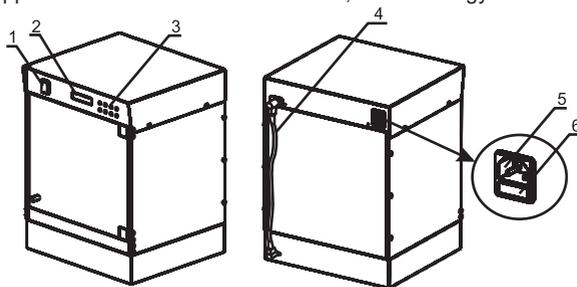

Fig.1
- power switch (fig. 1/1);
- display (fig. 1/2);
- control buttons (fig. 1/3).
- shaking block control cable (fig. 1/4);
- socket for connecting the power cord (fig. 1/5);
- fuse holder (fig. 1/6).
- connect the shaker control cable (fig.1/4) into the sockets on the rear of thermostatic and shaking blocks (see fig.1);
- plug the power cable into the socket on the rear (fig.1/5).
*Replacement of fuses.* Disconnect the device from the mains power supply. Disconnect the power cable from the socket on the rear of the shaker-incubator. Open the fuse holder (fig. 1/6). Replace with the correct fuse (230V, 50/60Hz, T1A(250Vac), 115V, 50/60Hz, T2A (250Vac)).